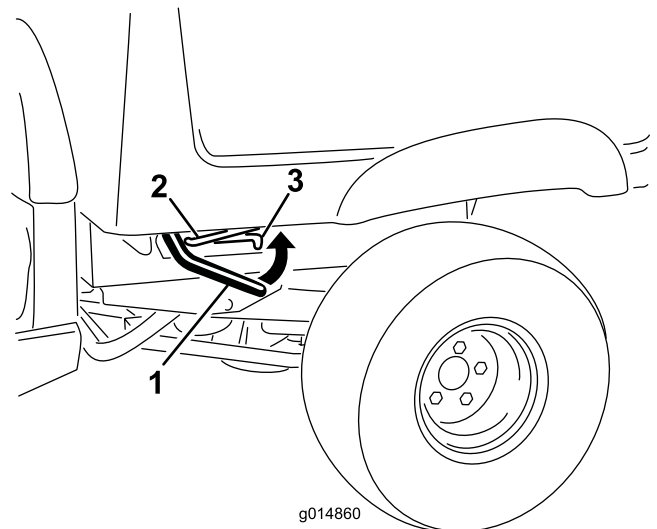

Figure 1
- Lift the lever on either side of the box and lift the box up (Figure 1).
- Pull the prop rod into the detent slot, securing the box (Figure 1).